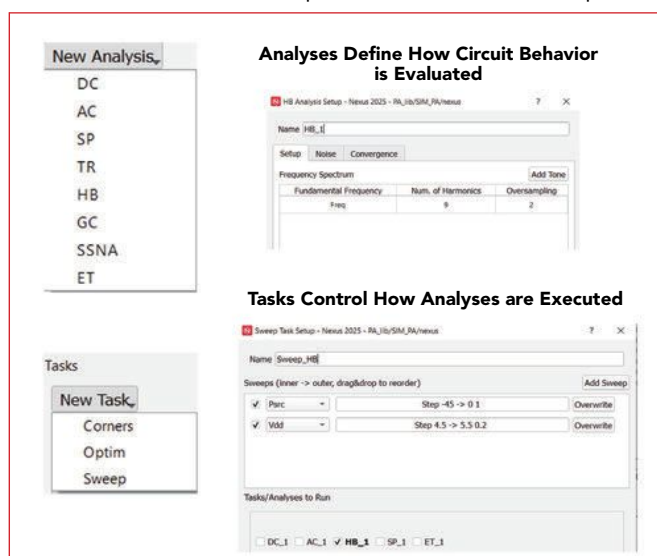

Fig. 2 Separation between analyses and tasks in the simulator user interface.
- **Separating simulation analysis from workflow tasks and speeding up analyses:** Semantics aside, simulation has two distinct steps: picking an analysis, like S-parameters, envelope or harmonic balance, and setting up a task, which is a sequence of analyses, like sweeps or optimization. In short, an analysis defines behavior evaluation, and tasks control how analyses execute (see **Figure 2**). Once that distinction is made, more efficient parallelization and significant speed-ups become possible.